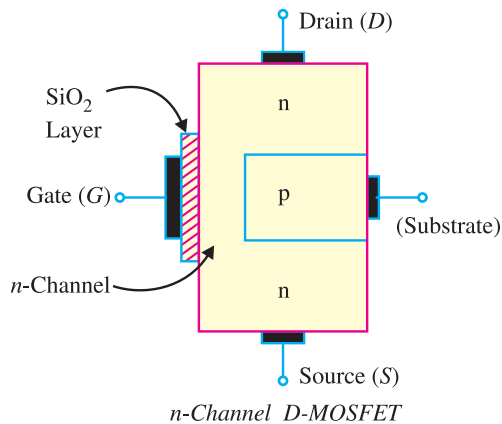

Fig. 19.43
1. D-MOSFET. Fig. 19.43 shows the constructional details of *n*-channel *D-MOSFET*. It is similar to *n*-channel *JFET* except with the following modifications/remarks :
(i) The *n*-channel *D-MOSFET* is a piece of *n*-type material with a *p*-type region (called *substrate*) on the right and an *insulated gate* on the left as shown in Fig. 19.43. The free electrons (*Q* it is *n*-channel) flowing from source to drain must pass through the narrow channel between the gate and the *p*-type region (*i.e.* substrate).